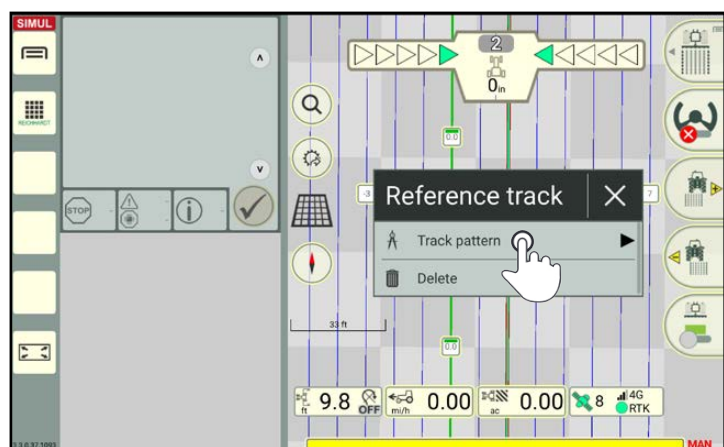

Fig. 169: Opening the context menu for the track pattern:
2. Open the context menu for the track pattern (see Fig. 169).